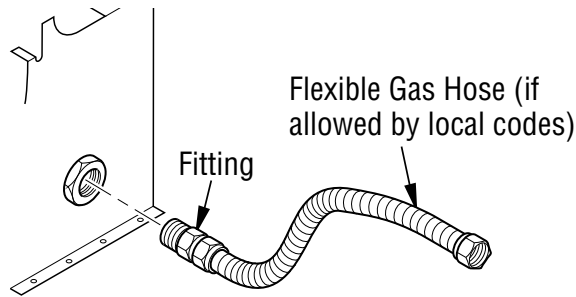

Figure 11 - Attaching Flexible Gas Hose to Heater
1. Connect approved flexible gas hose to gas control fitting in heater (see Figure 11, Page 12).